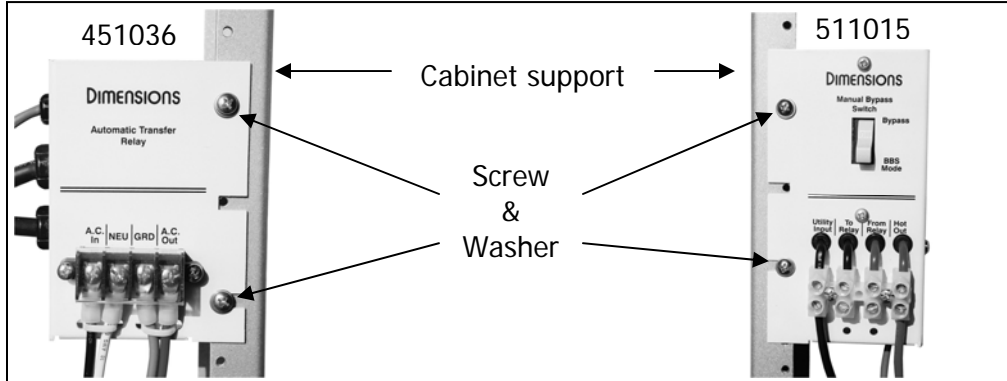

FIGURE 6: Mounting the MBPS and 30ATR
- Using the washer and bolt provided fix the 30A transfer relay and the combined manual bypass switch as shown on Figures 6, 7 and 8 below.